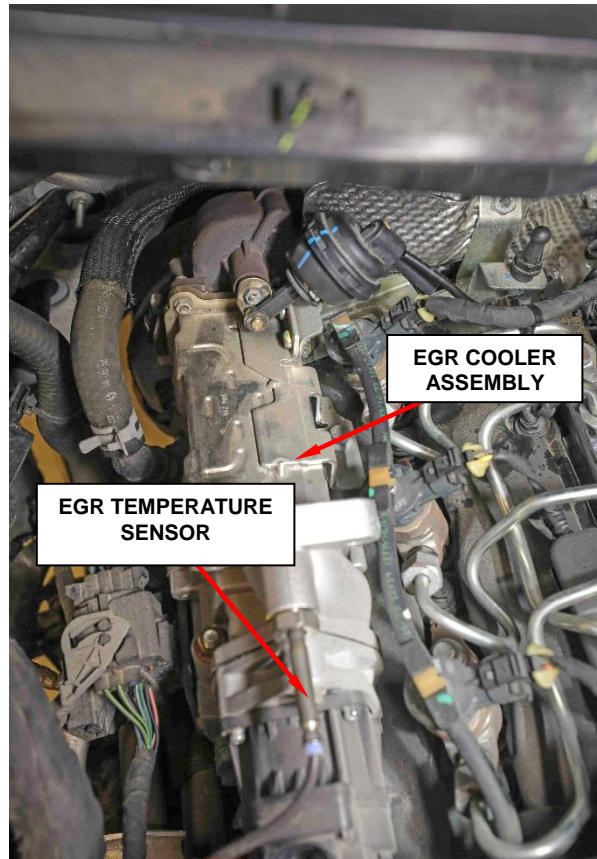

Figure 36 – EGR Cooler
12. Disconnect EGR temperature sensor wire harness connector (Figure 36).
27. Connect EGR temperature sensor wire harness connector (Figure 36).